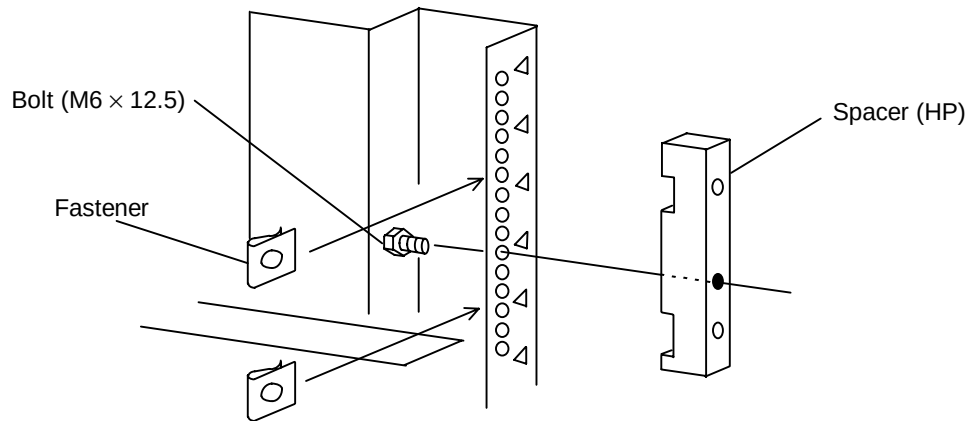

Figure 2.4.3 Installing the Spacer and Fasteners
2.4.3 Installing the spacer (See Figures 2.4.3 and 2.4.4.)